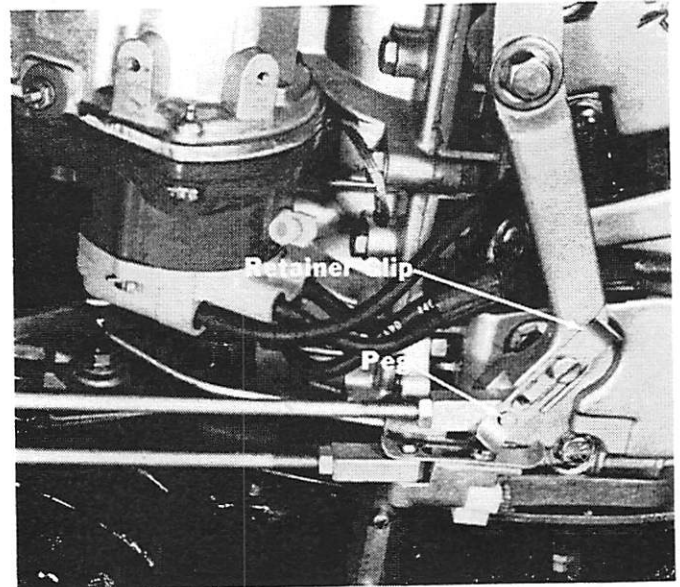

Figure 12. Throttle Link Rod Installed
14. Slide spring retainer clip over link rod end. Be sure that hole in spring retainer clip is centered over peg. (Figure 12)